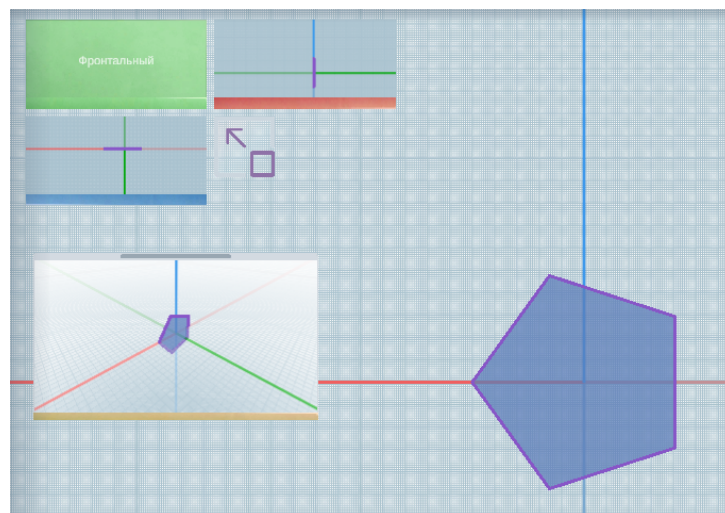

Figure 55 – Creating a 2D shape by clicking. Frontal view
- if the orthogonal view is active, then the created 2D shape will lie in the plane whose window is currently active. For example, if the front view was active when the shape was created, the 2D shape will be created in the XZ plane (Figure 55).